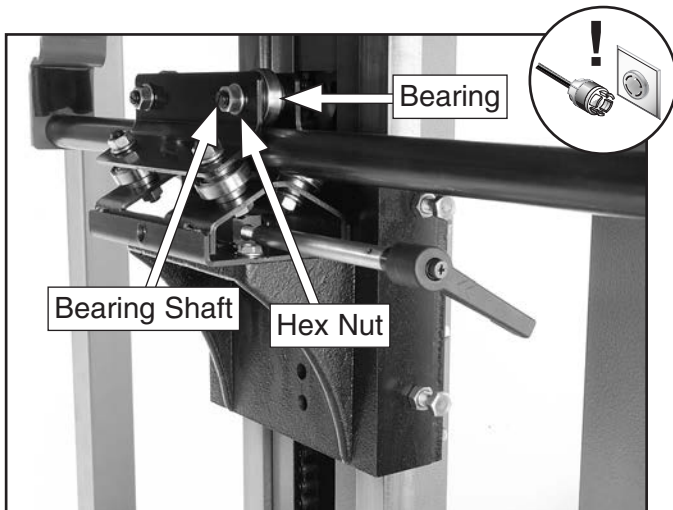

Figure 59. Table bearing adjustment.
1. Loosen the hex nuts on each end of the bearing shafts. It is not necessary to fully remove them (**Figure 59**).